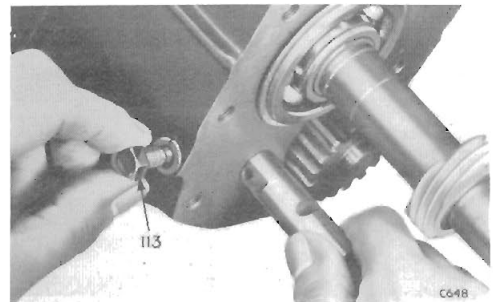

Fig. 18.
Remove the two circlips (99), (101), the distance washer (100), then place in a press and extract the ball race (102) and oil deflector (103), Fig. 18.